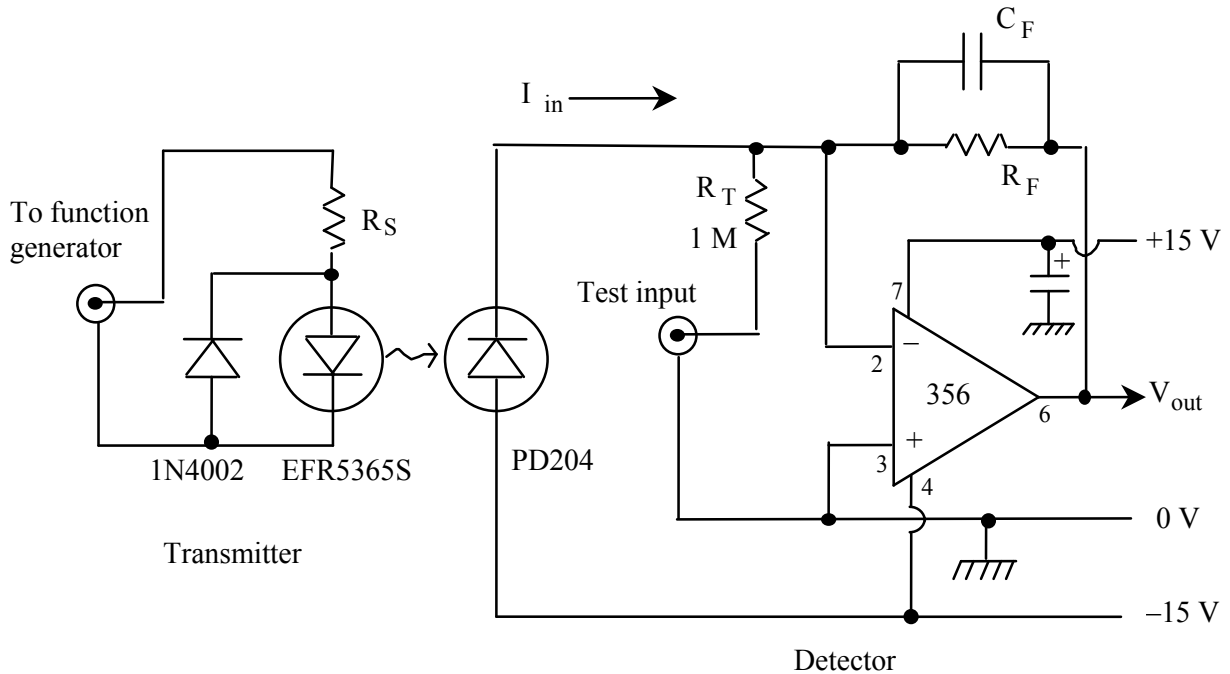

Figure 6.2 Light transmitter and photodiode detector.
In an ordinary inverting amplifier (Exp. 4, Figure 4.3) the input voltage is applied to a resistor, and the amplifier generates an output voltage in response to the current that flows through the input resistor to the virtual ground at the negative op-amp input. A current-to-voltage amplifier (Figure 6.2) is an inverting amplifier with the input current  $I_{in}$  applied directly to the negative op-amp input. Since no current flows into the op-amp input, the output voltage must be  $V_{out} = -I_{in}R_F$ . The ideal low-frequency gain of a current-to-voltage amplifier is
- (2 points) For the current-to-voltage amplifier in Figure 6.2, choose a value for the feedback resistor  $R_F$  so that an incident white-light intensity  $N$  of  $1.0 \text{ mW}/\text{cm}^2$  produces an output voltage of 10 V. The small feedback capacitor  $C_F$  is used to suppress spontaneous oscillations. The trans-impedance gain of the amplifier at any particular frequency is  $-Z_F$ , where  $Z_F$  is the effective impedance of the parallel  $R_F C_F$  circuit. Show that the gain rolls off at high frequencies with a bandwidth of  $f_B = 1/(2\pi R_F C_F)$ . The bandwidth will suffer if  $C_F$  is too large. What is the bandwidth  $f_B$  if  $C_F = 10 \text{ pF}$ ?
- (A) (1 point) Write down the dc values of the voltages at the + and – inputs and at the output of the op-amp for zero light on the photodiode. The diode data sheet gives the diode dark current.
- (A) (1 point) Assume we have an EFR5365S LED being run with a current of 20 mA as in Figure 6.2. See the LED datasheet on the course website. Compute the intensity  $N$  (in units of  $\text{mW}/\text{cm}^2$ ) incident on a detector 15 cm away placed at the center of the transmitted beam.
Build the photometer circuit shown in Figure 6.2. Use a value for  $R_F$  close to what you found in prelab problem 2, and a few pF of capacitance  $C_F$  across the feedback resistor to avoid spontaneous oscillations. Pay attention to the direction of the photodiode. To start, you do not need to connect the function generator or the  $1\text{ M}\Omega$  test resistor, but you should use this path if you find your photodetector circuit is not working and you want to test your op amp setup. Your circuit is probably working if you get a positive voltage out that varies as you block and unblock your photodiode.